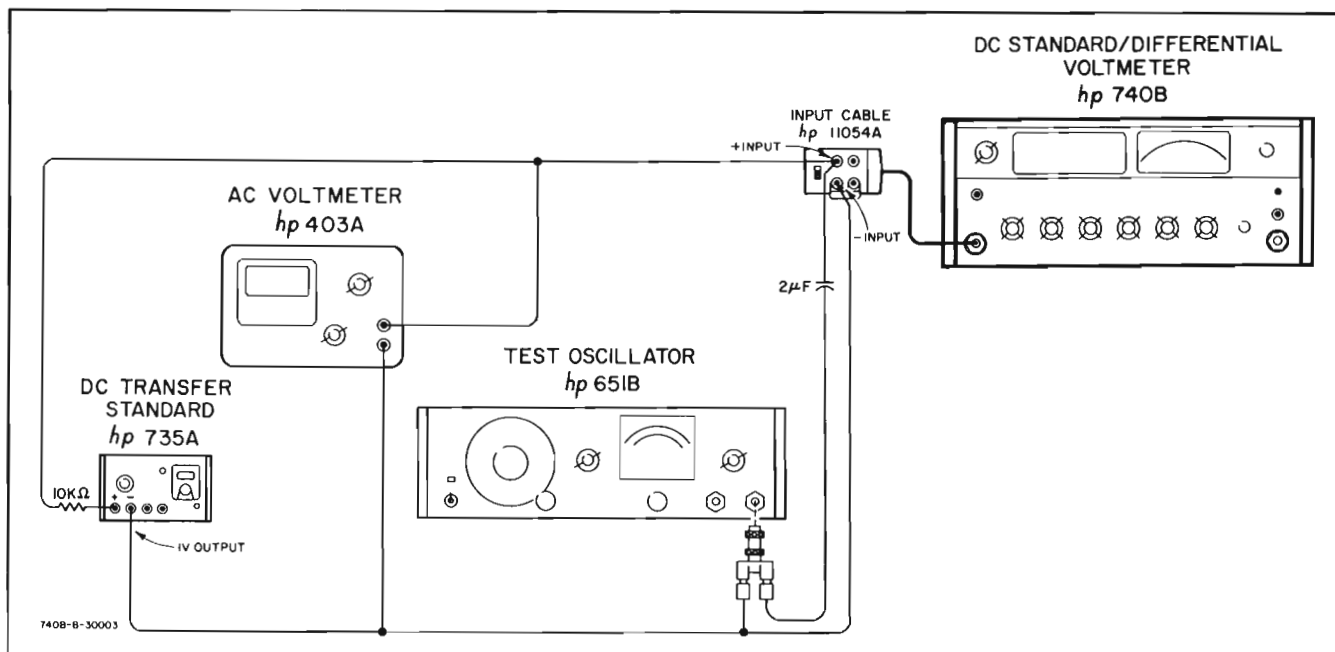

Figure 5-6. Superimposed AC Rejection Test
- a. Connect test setup shown in Figure 5-6. Do not turn on oscillator yet.